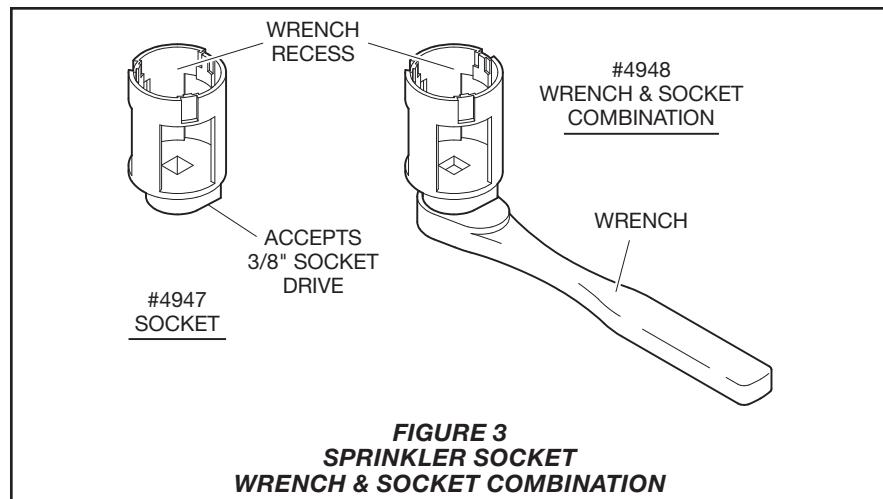

FIGURE 3
Step 4. Wrench-tighten the sprinkler using only the Sprinkler Socket or Wrench & Socket Combination (Ref. Figure 3). The wrench recess of the Socket is to be applied to the sprinkler wrenching area (Ref. Figure 1A).